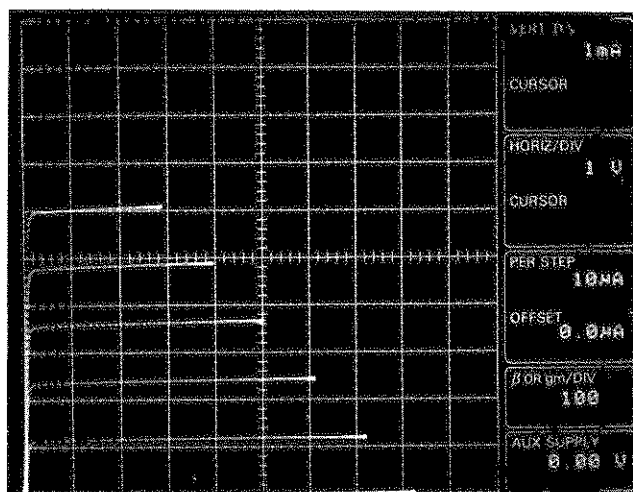

Figure 3-14. Digitally stored curves.
69. Press STORE. Digitally stored curves should be displayed on the crt (see Figure 3-14).